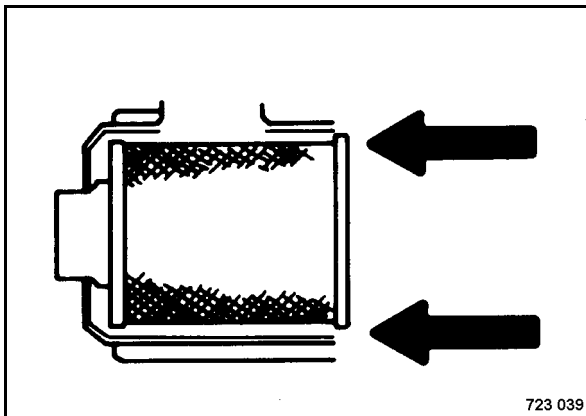

Fig. 107
- Insert the main filter element (Fig. 107).